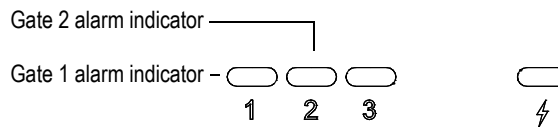

Figure 2-12 Gate 1 and gate 2 alarm indicator lights
- One of two alarm indicators (LEDs) is illuminated on the front panel of the EPOCH 600 (see Figure 2-12 on page 46)